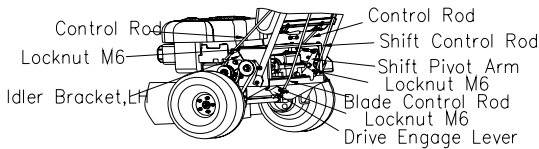

FIG2
• Each of the control rods must be connected as shown in FIG2. Follow the instructions to properly adjust each of the controls.